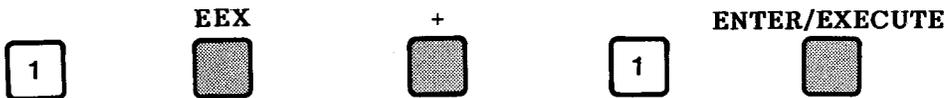
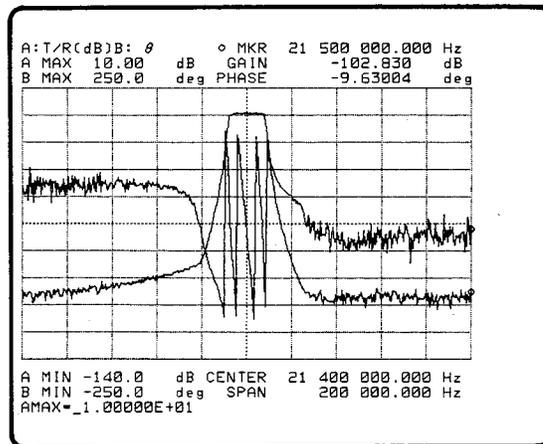

Figure 3-78. Direct Key In
Figure 3-79. New A MAX value.
3. Press the **STEP UP/DOWN** key, or enter directly using the input keys in the entry section as shown in Figure 3-78. The scale will change as shown in Figure 3-79.